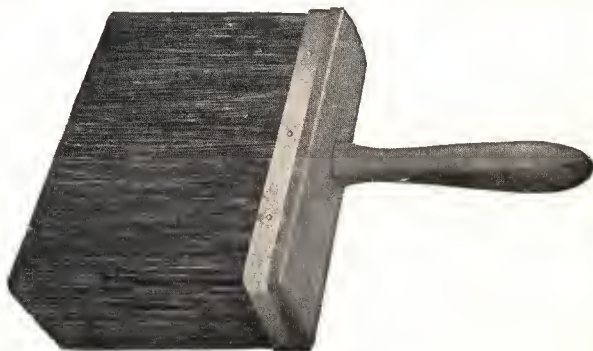

FIG. 12
**Dutch Calcimine Brush, Figure 12:** A gray Russian bristle calcimine brush set in "continuous" rows, vulcanized in rubber. The brush is made in three sizes with various lengths of bristle in all sizes. The sizes are  $2\frac{3}{8}$ " x  $7\frac{1}{4}$ ",  $2\frac{3}{16}$ " x  $7\frac{1}{4}$ " and  $1\frac{3}{4}$ " x  $7\frac{1}{4}$ ". The most economical length of bristle is 5". In buying these brushes be careful to avoid those containing China bristle mixtures.